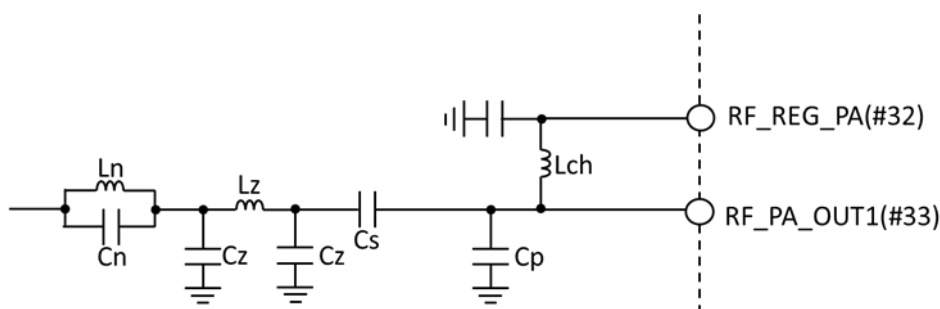

Figure 7.11 Second harmonics suppression with notch filter(Ln//Cn)
3. Cut the second harmonic with the Notch filter Ln//Cn (Figure 7.11)